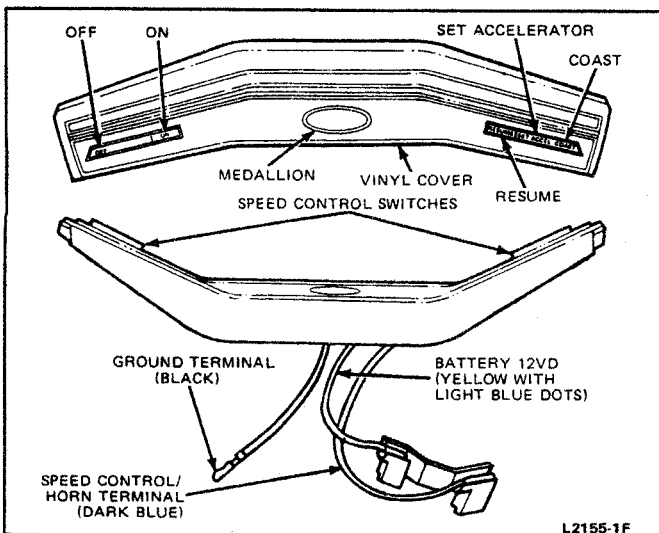
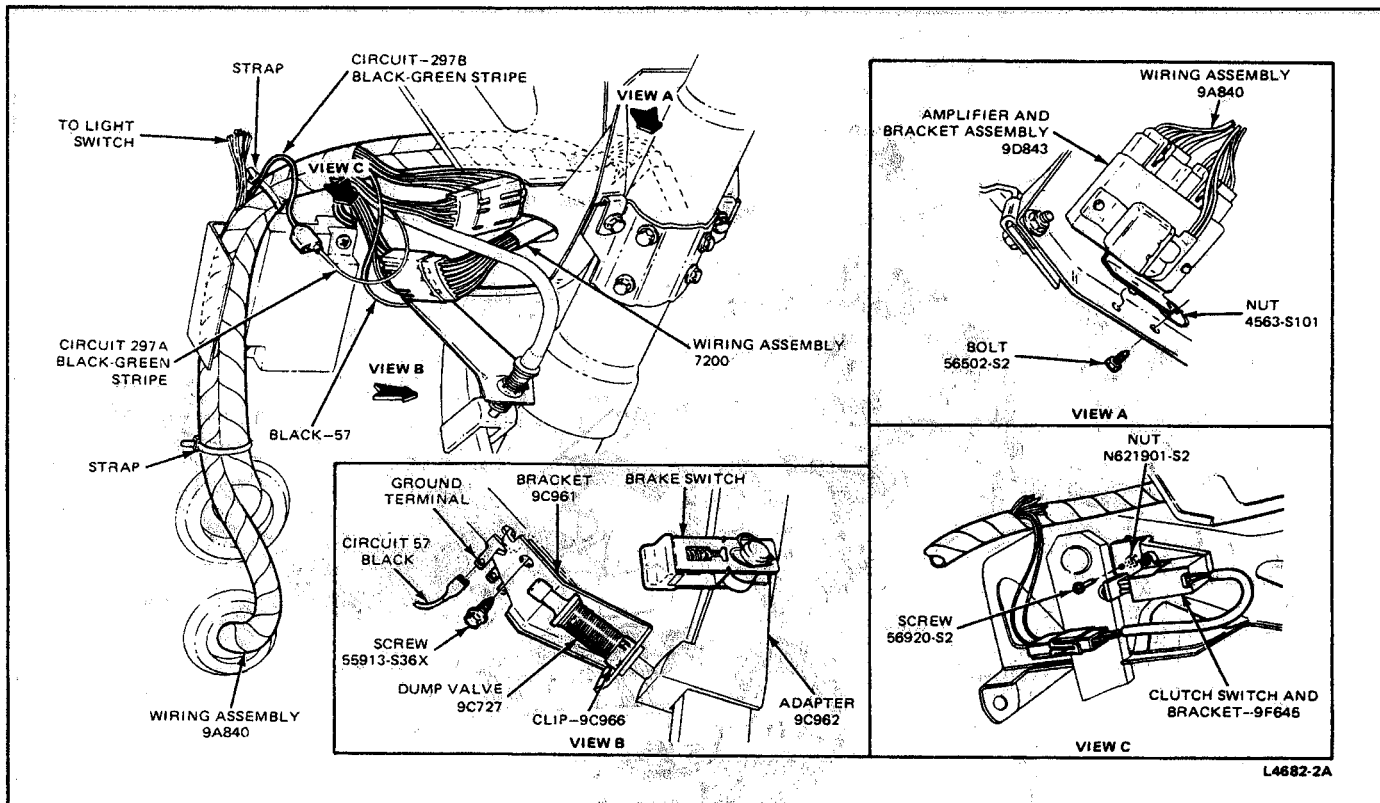

FIG. 1 Control Switch Installation
FIG. 3 Speed Control Amplifier and Wiring Installation—E-150—E-350
sensor, a clutch position sensing switch (manual transmissions), an amplifier assembly and the necessary wires, linkage, vacuum dump valve vacuum hose to connect the components. The 6.9L diesel engine incorporates a vacuum reservoir with an integrated check valve. The switches are located in the horn pad assembly (Figs. 1 and 2). The amplifier assembly is located under the instrument panel (Figs. 3, 4 and 5). The
Disconnect the ball chain from the carburetor (if so equipped) (Figs. 11 through 14). Separate connector C-1003 at the amplifier (Figs. 3 and 7). Connect an ohmmeter between the orange-yellow hash wire (734) and gray-black hash wire (825) at the 8-way connector. A resistance of approximately 40 to 125 ohms should be obtained. Connect the ohmmeter between the orange-yellow hash wire (734) and white-pink hash wire (826). A resistance of approximately 60 to 190 ohms should be obtained. Reconnect the ball chain (if so equipped) to the carburetor and properly adjust as described on Figs. 11 through 14.